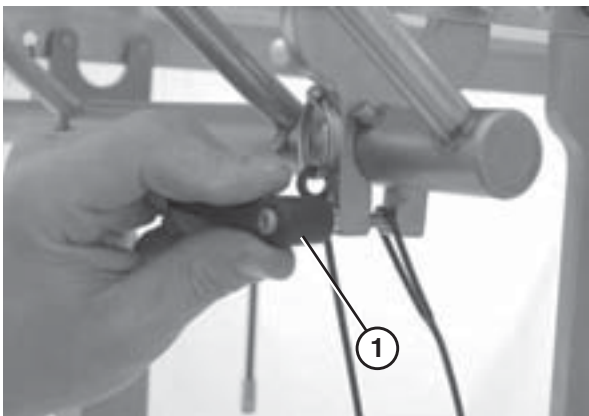

Figure 13
- Secure the scraper by tightening the handle (Figure 13, item 1).